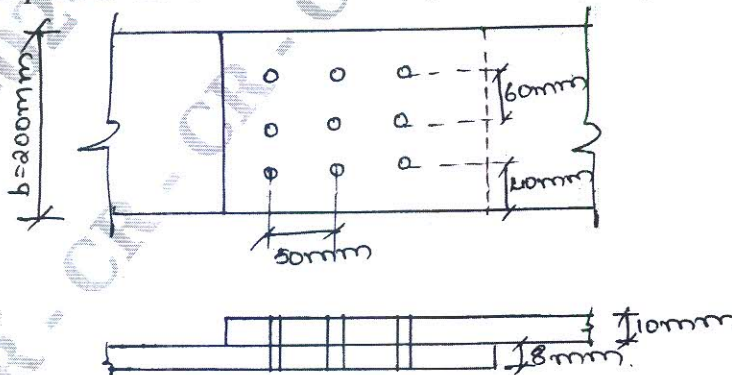

Fig.Q.3(c)
- c. Determine the efficiency of the lap joint shown in Fig.Q.3(c). Use M16; property class 5.6 bolts. The grade of plate is 410N/mm². Assume any shank in shear plane. (10 Marks)